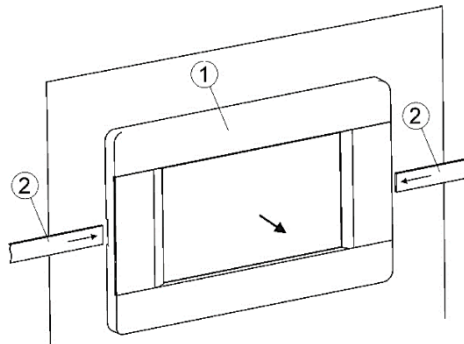

Figure 11. Removing the control panel
To replace the control panel (1), the panel must be removed from the boiler door cover by inserting suitable flat objects (2) into the slots shown in Figure 11. This will cause the panel stops to dislodge and allow the panel to be removed.